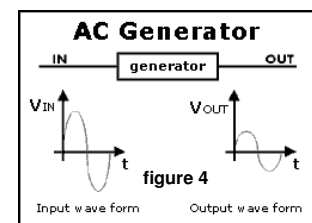

figure 4
b) *alternating current (AC) power source* (see figure 4)